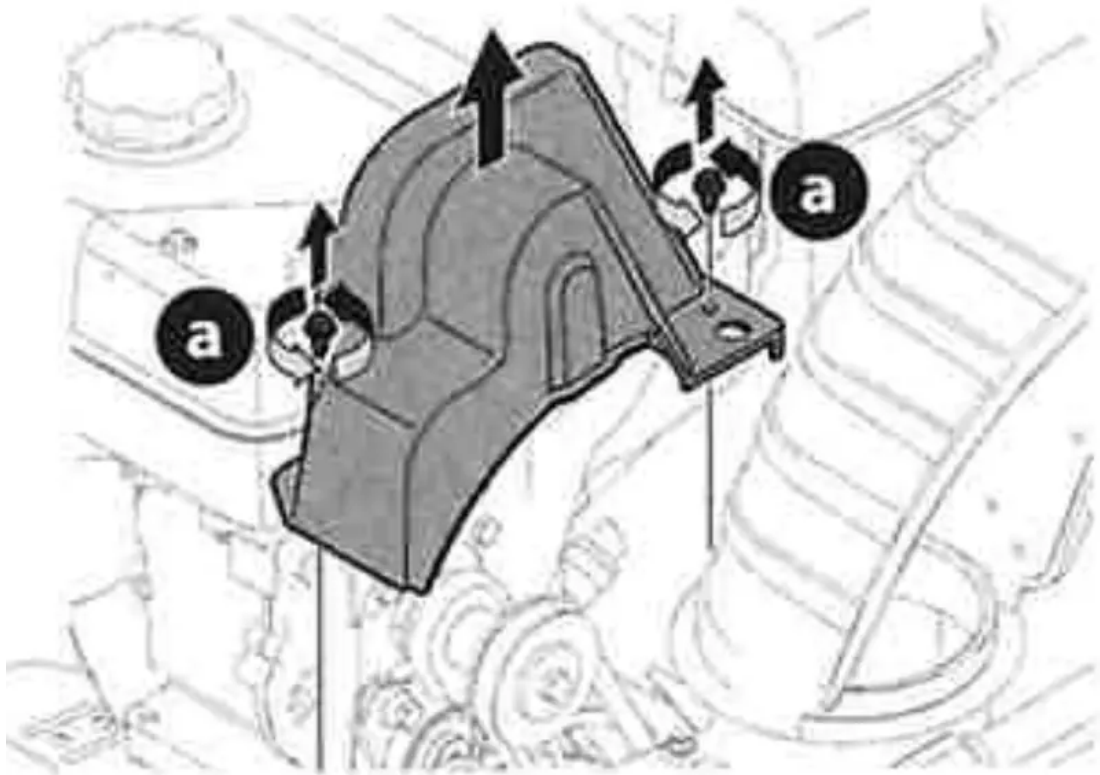

Figure 81
2. Remove plastic belt cover on front of engine by removing two self-tapping screws(a) (Figure 81).